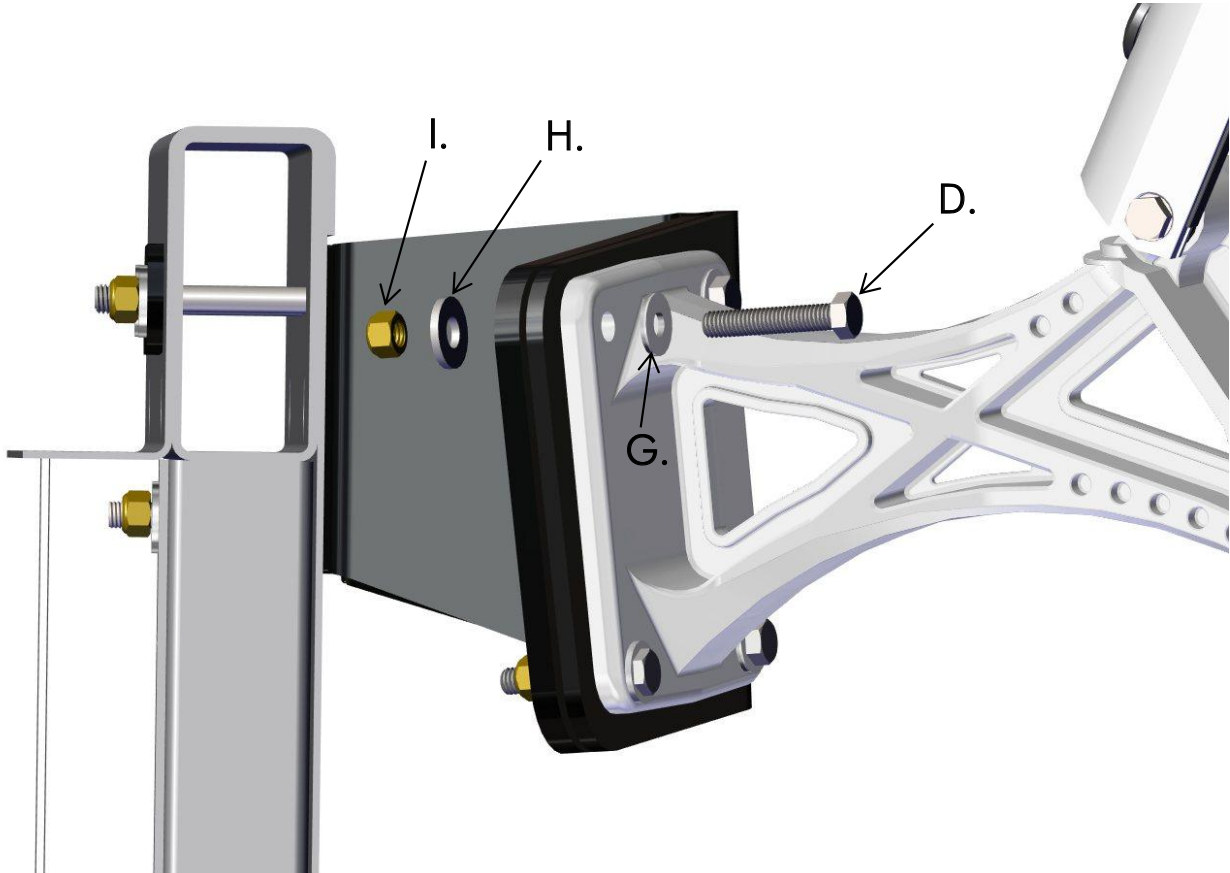

Figure 4
STEP 9. Now you're ready to install the Power-Pole shallow water anchor to the adapter plate. Install the bolts and hardware as illustrated in **FIG. 4**.